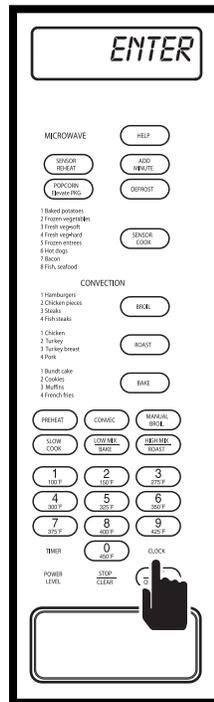

Figure 3-68.
4. To exit Demo Mode, press CLOCK again and “ENTER - TIME” will flash on display (See Figure 3-68).